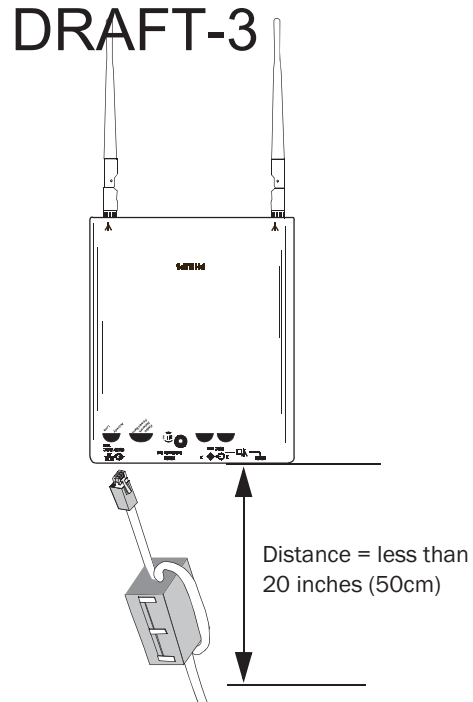

Figure 2-2: Installing a Ferrite Block on the UTP Cable to the ITS Infrastructure
6. Install a ferrite block on the UTP cable within 20 inches (50 cm) of the RJ-45 connector that connects to the Core Access Point as shown in Figure 2-2.